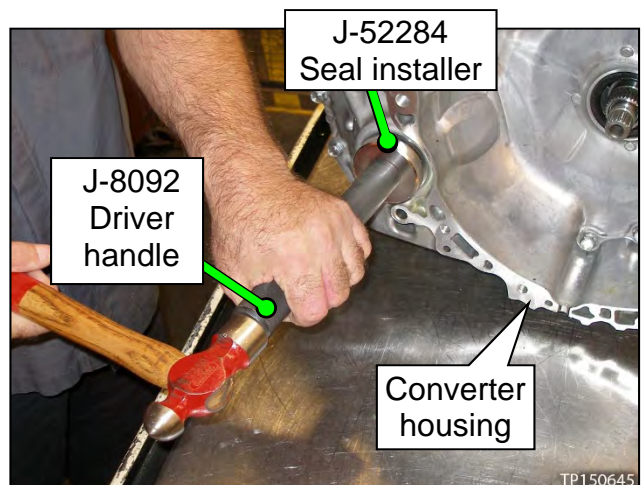

Figure 132
99. On AWD models, skip to step 100. On 2WD vehicles, install the torque converter housing side axle seal (Figure 132).